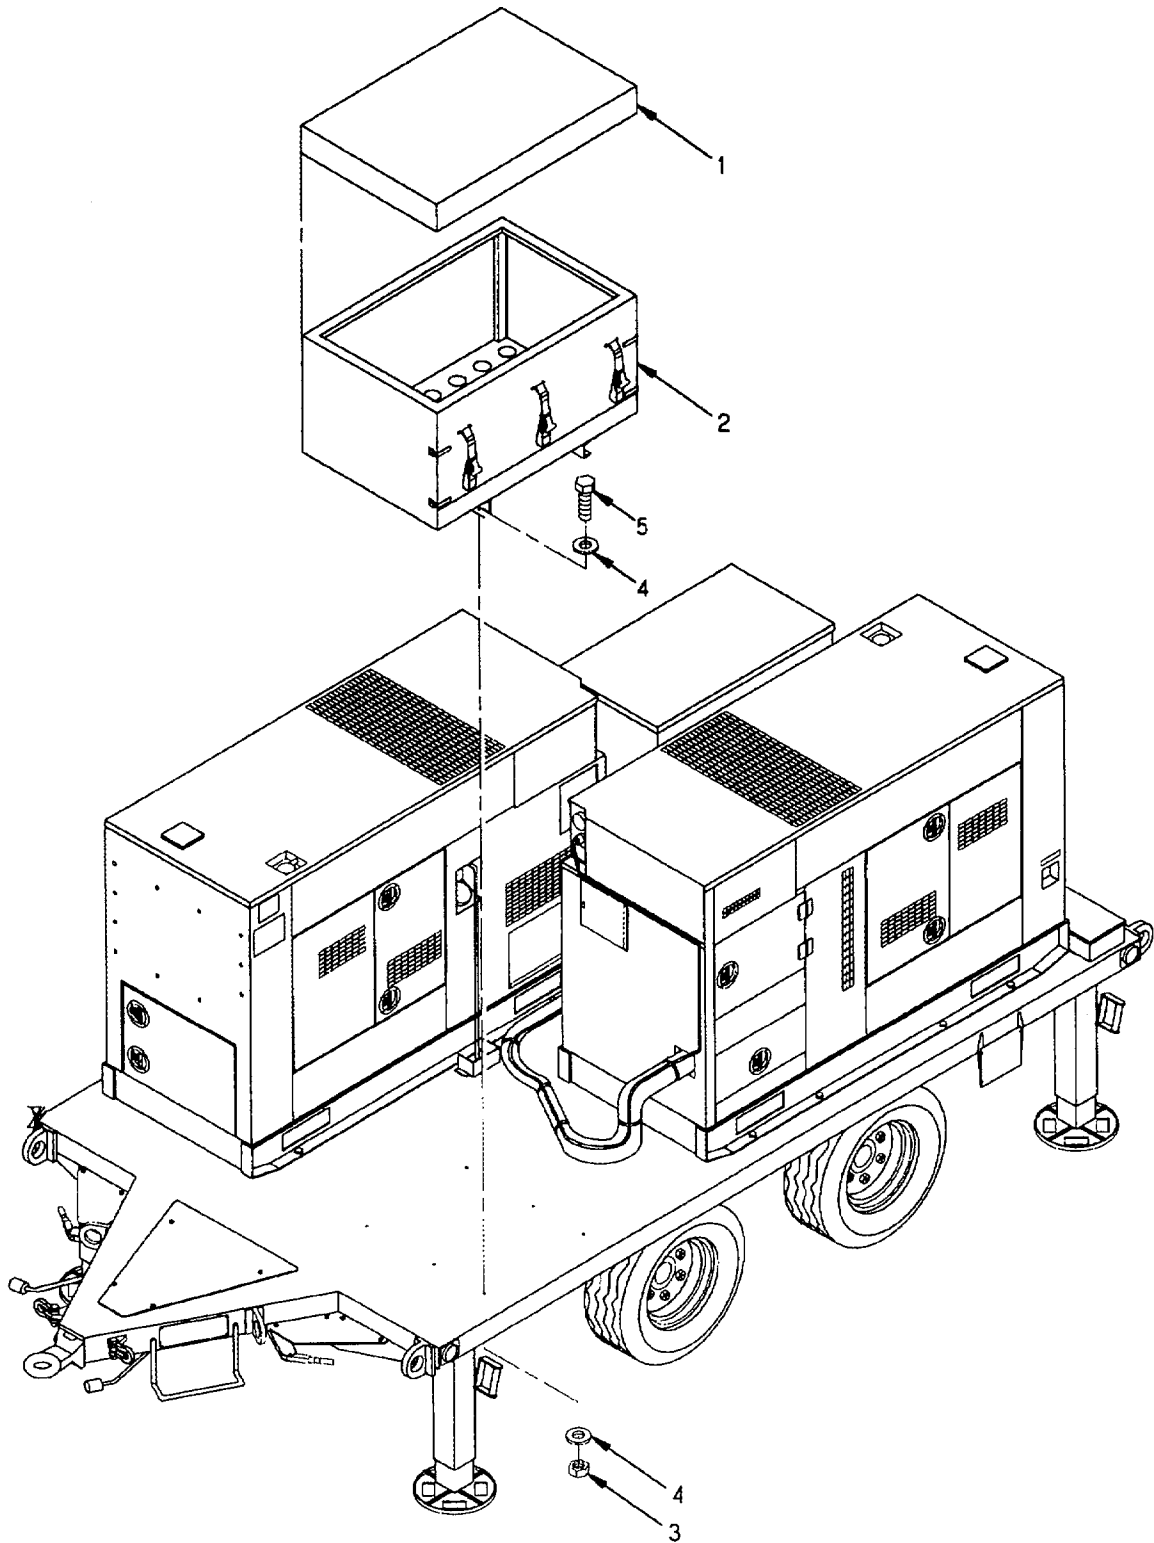

Figure 4-13. Cable Storage Box Replacement.
1. Remove vinyl cover (1, figure 4-13) from cable storage box (2).
3. Remove six self-locking nuts (3), 12 flat washers (4), and six bolts (5) that secure the cable storage box (2) to the trailer chassis.